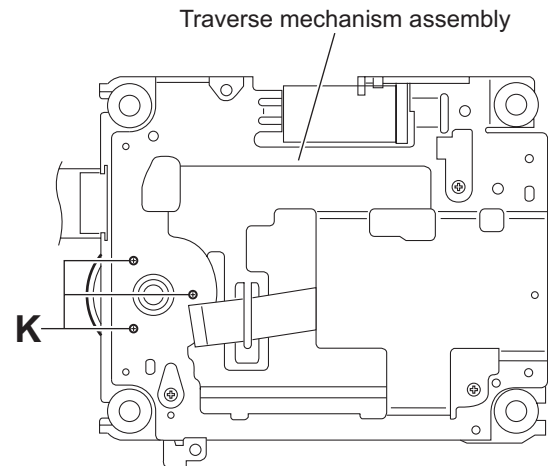

Fig.13
- From the bottom side of the traverse mechanism assembly, remove the three screws **K** attaching the spindle motor board. (See Fig.13.)